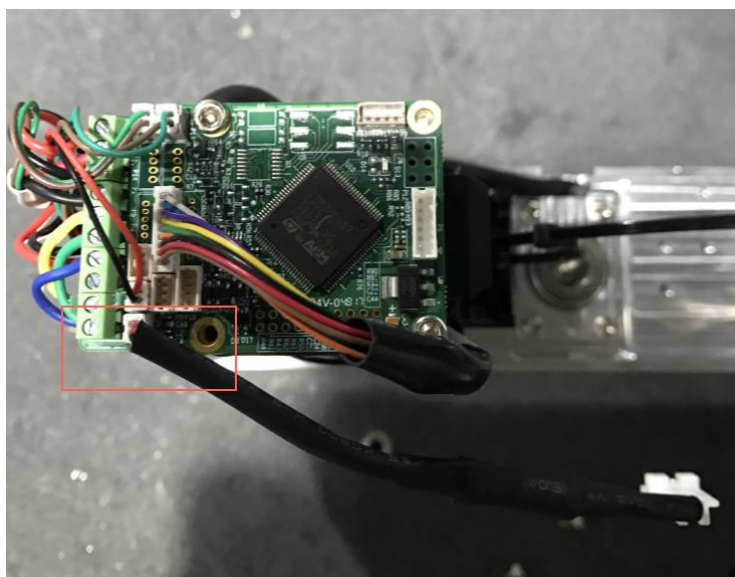

Figure 7.14 Connect the battery adapter to the battery interface
- Step 5** Connect one end of the battery adapter cable to the battery interface on the Driver Board, as shown in Figure 7.14. If it has been connected, please skip this step.